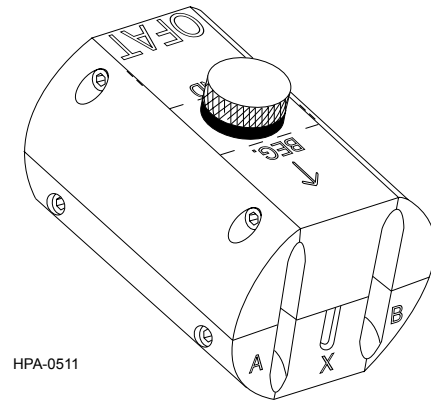

Figure 21
- Step 1:** Read and completely understand SRP-004-014, Corning Optical Communications OFT-000 Optical Fiber Access Tool (OFAT) (Figure 21). This procedure describes how to access fibers in a buffer tube with the OFAT.